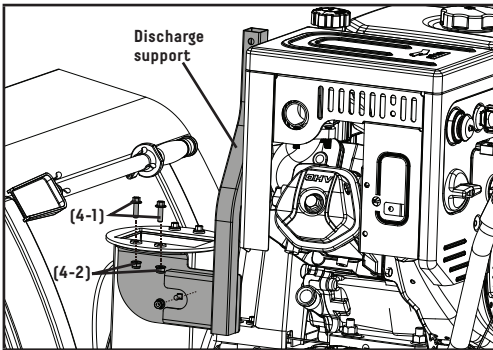

Figure 6
1. Locate the position for assembly (Fig. 6).
2. Remove the bolts (4-1) (Fig. 6) and nuts (4-2) (Fig. 6) from the main body as shown (Fig. 6). Set aside for next step.
4. Attach the snow discharge support on the main body with bolts (4-1) (Fig. 6).
5. Tighten all nuts (4-2) as shown (Fig. 6). Do not overtighten.